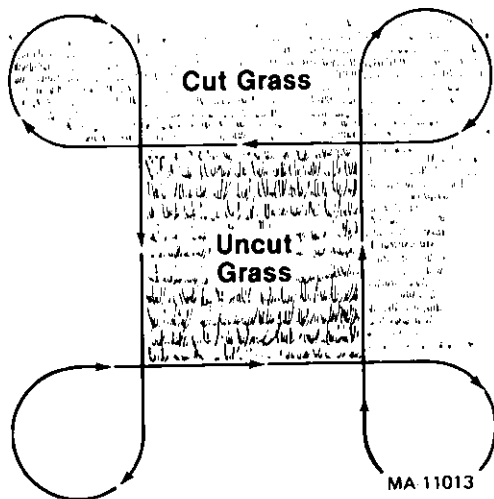

FIGURE 36.
4. Follow the mowing procedure shown in figure 36.